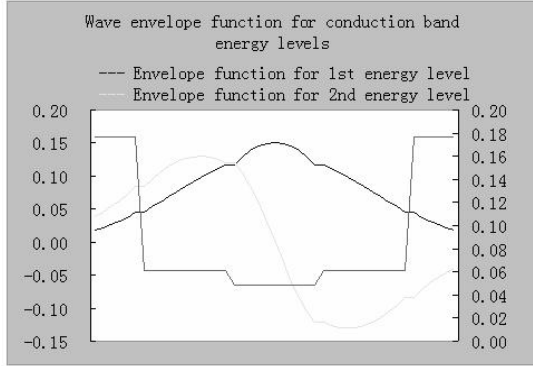
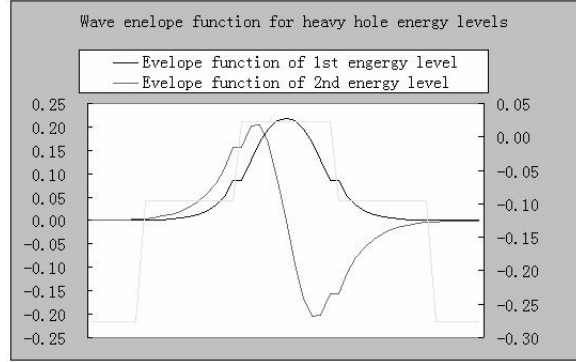
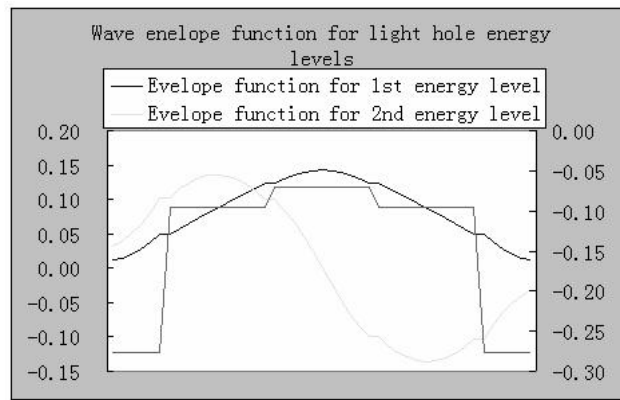

Fig. C.2.2. Wave envelop functions for energy levels in conduction band
Fig. C.2.3. Wave envelope functions for heavy hole energy levels. There is some rounding error with plot
Fig. C.2.4. Wave envelope functions for light hole energy levels
b) The main output file from this part of GAIN program is energy.dat, containing all the energy levels as shown in Table C.2.5. After the energy eigen values are calculated, the GAIN program asks the user whether he would like to check the wave envelope function or not. We suggest that the user check the wave envelope functions of the first and second energy levels for conduction and valence bands. The plots of the envelope functions are shown in Fig. C.2.2, Fig. C.2.3, Fig C.2.4.